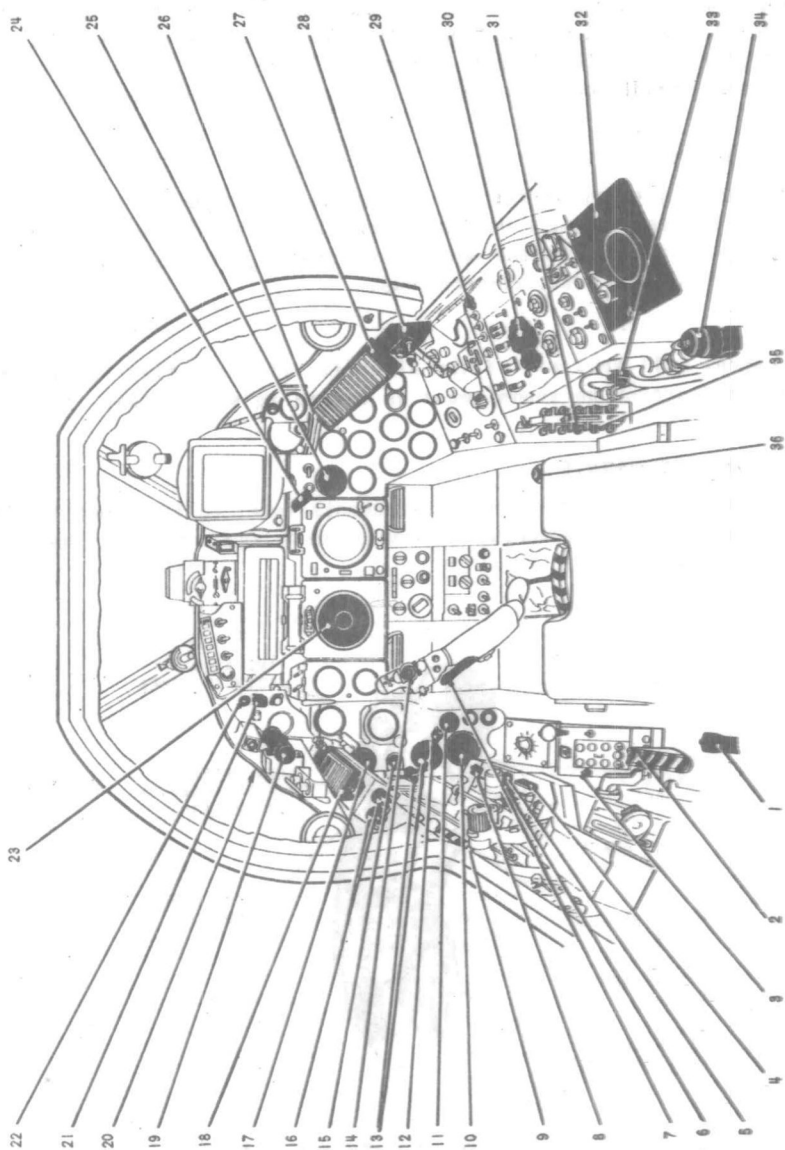

Fig. 4.
6. For location of controls and instruments refer to fig.4 and the key in this chapter. Engine and fuel system cockpit controls are illustrated in Chapter 5.
KEY TO FIG.4